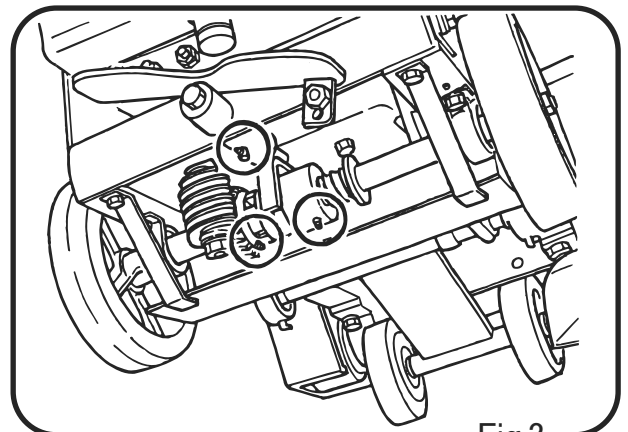

Fig.3
7.3. Worm gear of Drive shaft (Fig. 3)